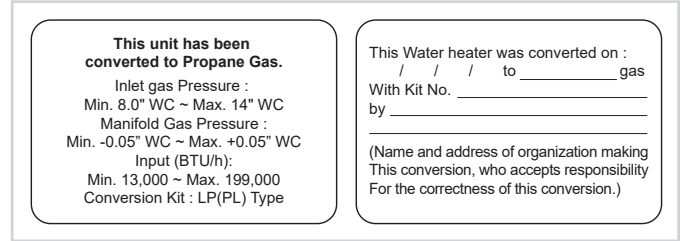

Figure 11
Conversion kit must be ordered in order to convert gas type (not included with the heater). Verify the supplied gas type before completing the gas conversion. After conversion, the label (included with the conversion kit) displaying the converted gas type must be attached to the water heater. (Refer to Figure 11)
19. Attach the label (Figure 11) in a conspicuous location adjacent to the rating plate.